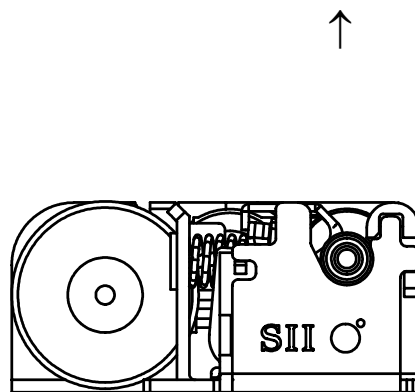

Figure 6-8 Platen Release Direction
- (1) Lift the platen to the arrow direction shown in **Figure 6-8** to remove it.